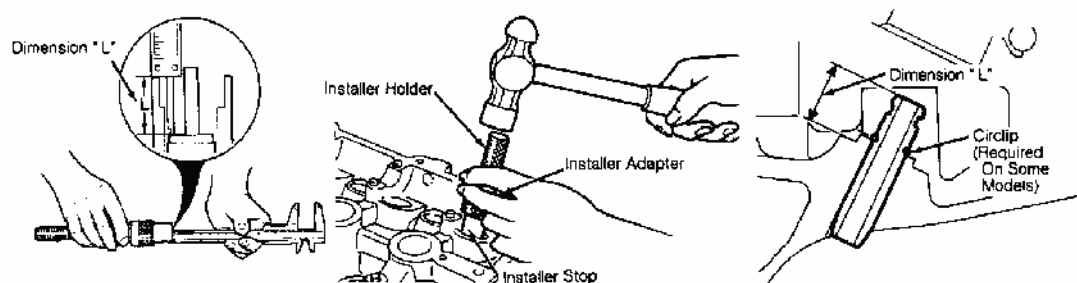
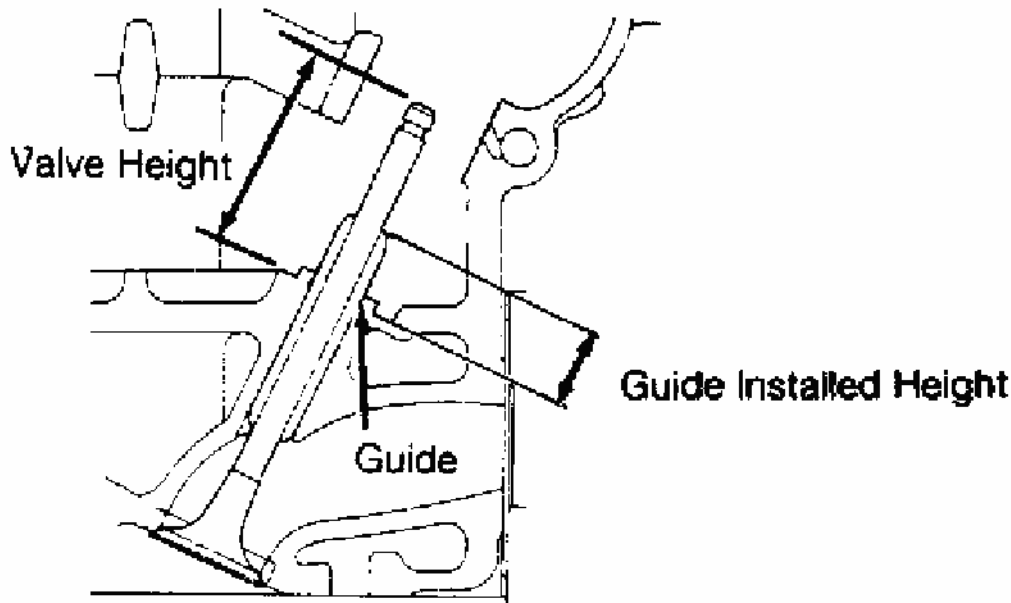

Fig. 11: Adjusting Valve Guide Installer & Installing Guide
Fig. 12: Measuring Installed Valve & Guide Height
3. If required, install new circlip on guide. Using proper components of Valve Guide Installer (49-L012-0A0), adjust installer guide depth (dimension "L") to specification using depth micrometer or caliper. See **Fig. 11**.
4. Insert guide into pre-adjusted installer, and drive guide into cylinder head from camshaft side until guide circlip and/or installer contact cylinder head. Measure dimension "L" (guide installed height). See **Fig. 11** or **Fig. 12**. If installed height is not within specification, adjust or replace valve guide or cylinder head as necessary. See VALVE GUIDE INSTALLED HEIGHTS table.
2. Measure seat contact width on valve, and note that seat contact position should be in center of valve face. Service seat if angle and width are not within specification. See CYLINDER HEAD table under ENGINE SPECIFICATIONS at end of article. Measure valve installed height after servicing valve seat. See **Fig. 12** . See VALVE INSTALLED HEIGHTS table.